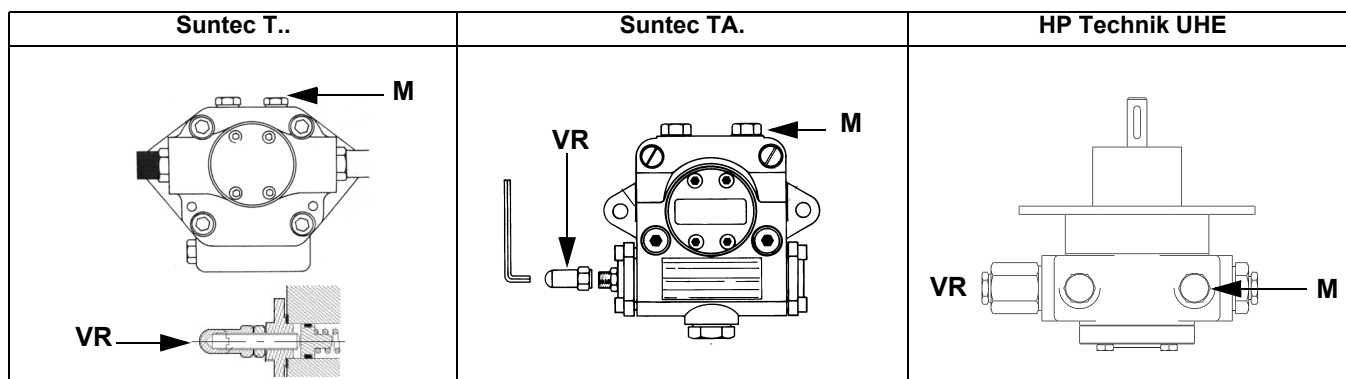
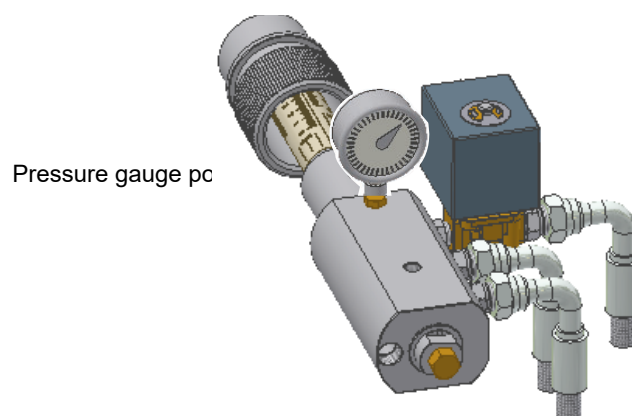

Fig. 18
Fig. 19
- 3 bleed the air from the **M** pressure gauge port (Fig. 18) by loosening the cap without removing it, then release the contactor.
- 5 Only if necessary, adjust the supply pressure as follows (see related paragraph); insert a pressure gauge into the port shown on Fig. 19 and act on the pump adjusting screw **VR** (see Fig. 18) as to get the nozzle pressure at 20bar (Monarch or Fluidics nozzles - see page 44-38).